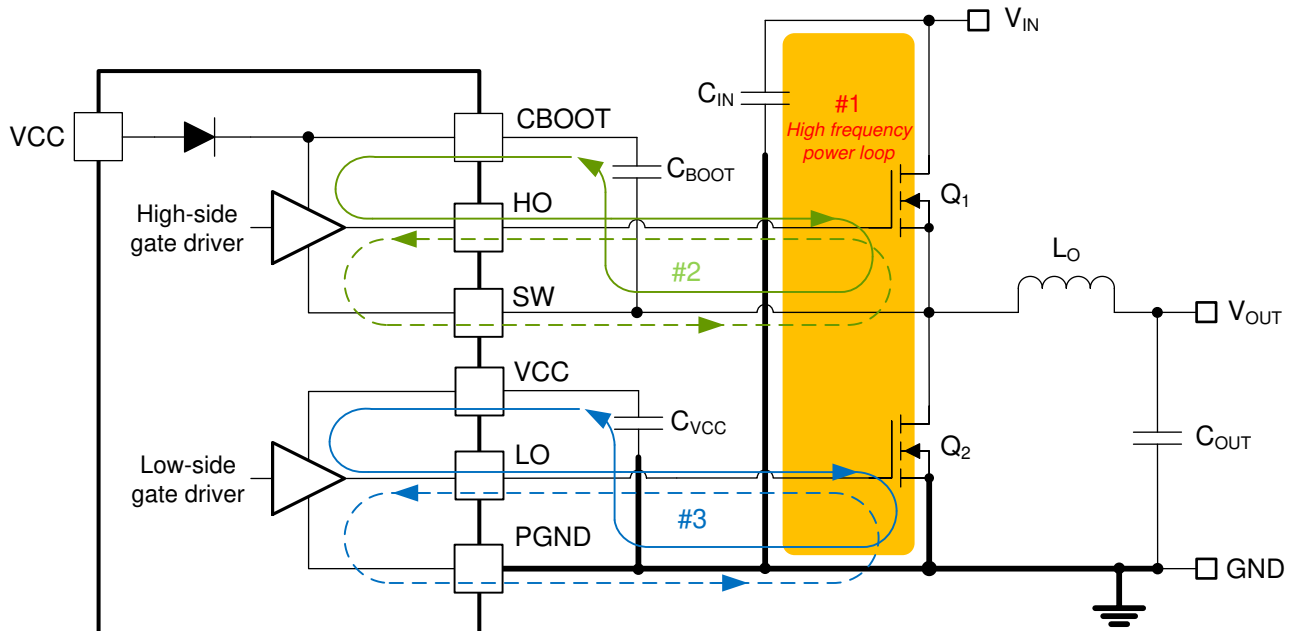

FIG 9-35. DC/DC Regulator Ground System With Power Stage and Gate Drive Circuit Switching Loops
Proper PCB design and layout is important in a high-current, fast-switching circuit (with high current and voltage slew rates) to achieve a robust and reliable design. As expected, certain issues must be considered before designing a PCB layout using the LM25148-Q1. The high-frequency power loop of a buck regulator power stage is denoted by loop 1 in the shaded area of 図 9-35. The topological architecture of a buck regulator means that particularly high di/dt current flows in the components of loop 1, and reducing the parasitic inductance of this loop by minimizing the effective loop area becomes mandatory. Also important are the gate drive loops of the high-side and low-side MOSFETs, denoted by 2 and 3, respectively, in 図 9-35.
- Loop 1: The most important loop area to minimize is the path from the input capacitor or capacitors through the high- and low-side MOSFETs, and back to the capacitor or capacitors through the ground connection. Connect the input capacitor or capacitors negative terminal close to the source of the low-side MOSFET (at ground). Similarly, connect the input capacitor or capacitors positive terminal close to the drain of the high-side MOSFET (at VIN). Refer to loop 1 of FIG 9-35.
- The SW pin connects to the switch node of the power conversion stage and acts as the return path for the high-side gate driver. The parasitic inductance inherent to loop 1 in FIG 9-35 and the output capacitance (C_{OSS}) of both power MOSFETs form a resonant circuit that induces high frequency (greater than 50 MHz) ringing at the SW node. The voltage peak of this ringing, if not controlled, can be significantly higher than the input voltage. Make sure that the peak ringing amplitude does not exceed the absolute maximum rating limit for the SW pin. In many cases, a series resistor and capacitor snubber network connected from the SW node to GND damps the ringing and decreases the peak amplitude. Provide provisions for snubber network
- Loop 2: high-side MOSFET, Q_1 . During the high-side MOSFET turn-on, high current flows from the bootstrap (boot) capacitor through the gate driver and high-side MOSFET, and back to the negative terminal of the boot capacitor through the SW connection. Conversely, to turn off the high-side MOSFET, high current flows from the gate of the high-side MOSFET through the gate driver and SW, and back to the source of the high-side MOSFET through the SW trace. Refer to loop 2 of Figure 9-35.
- Loop 3: low-side MOSFET, Q_2 . During the low-side MOSFET turn-on, high current flows from the VCC decoupling capacitor through the gate driver and low-side MOSFET, and back to the negative terminal of the capacitor through ground. Conversely, to turn off the low-side MOSFET, high current flows from the gate of the low-side MOSFET through the gate driver and GND, and back to the source of the low-side MOSFET through ground. Refer to loop 3 of Figure 9-35.